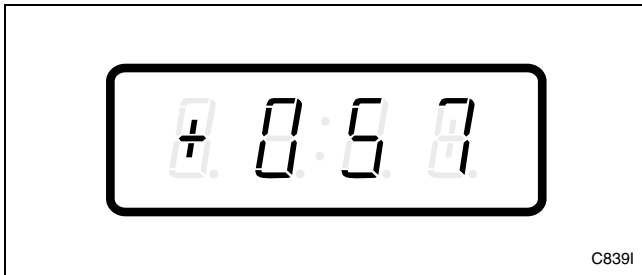

Figure 199
3. Press the LOW TEMP (+) or the NO HEAT (-) keypad to scroll through the programmable options until “+057” appears in the VFD. Refer to *Figure 199*.